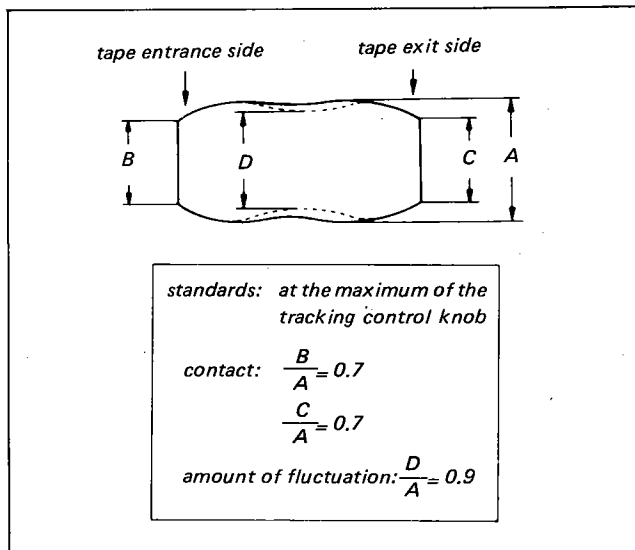

Fig. 4-2.
- 5) Confirm that the oscilloscope radio frequency output waveform is flat and that the amplitude is a maximum. (Turn the tracking knob right and left to increase and decrease the amplitude while the waveform remains flat. When the amplitude of the waveform is a maximum, confirm that the fluctuations and contact of the radio frequency output waveform meet the standards given in Fig. 4-2. If they do not, go through the procedure given in step 6).